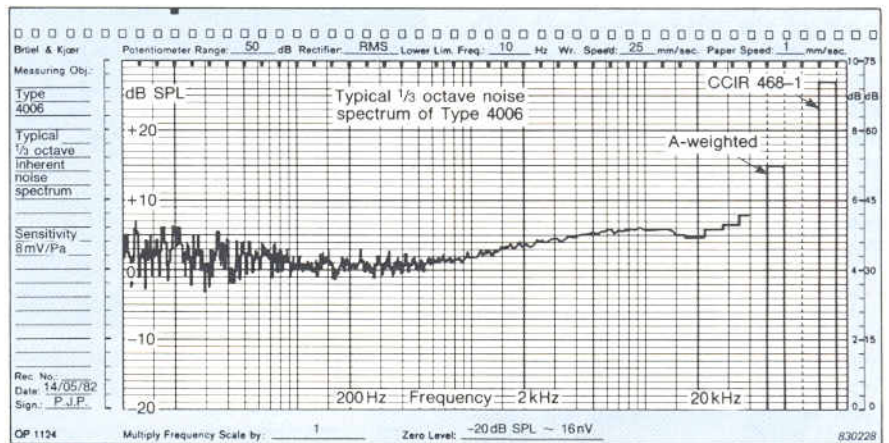

Fig. 11. Typical third-octave inherent noise spectrum of Type 4006
The equivalent noise level of Types 4003 and 4006 is very low, typically 15 dB(A) with a guaranteed maximum of 17 dB(A). A typical third-octave inherent noise spectrum for Type 4006 is shown in Fig. 11. Nominal sensitivities for the Microphones are 50 mV/Pa (-26 dB re 1 V/Pa) and 12,5 mV/Pa (-38 dB re 1 V/Pa) respectively, the lower sensitivity of Phantom model Type 4006 being due to the integral transformer circuitry associated with P48 powering system. The Microphones will handle levels up to 135 dB peak with less than 1% total harmonic distortion and peak levels up to 154 dB (Type 4003) and 143 dB (Type 4006) before clipping occurs.
**Types 4003 and 4006:** See Fig. 11